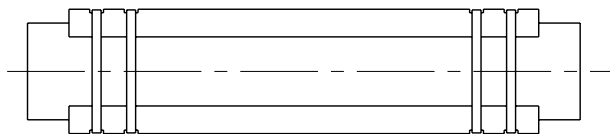

Figure 6-6 Typical skid arrangement
- 2 For an easy insertion and for protection from sliding damage the pipes should be equipped with plastic spacers, steel sleeves or wooden skids (as shown in **Figure 6-6** and **6-7**). These must provide sufficient height to permit clearance between the coupling joints and the casing wall.